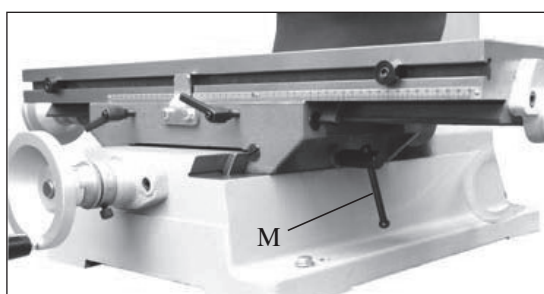

Fig. 9.1
2. 1.Lock the table using two lock levers (L-fig. 9) for Y-axis, the lock handle (M-fig.9.1) for X-axis. Turn clockwise to lock and counter-clockwise to unlock.